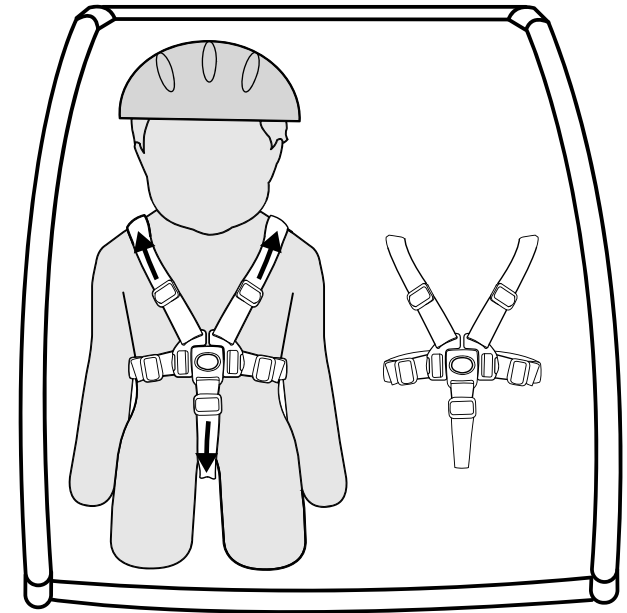

Figure 23
3. When using double trailer with one child, always seat the child in the right side position (Figure 23).